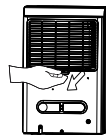

Fig. 14
- To remove the filter, pull filter outwards (See Fig.14).